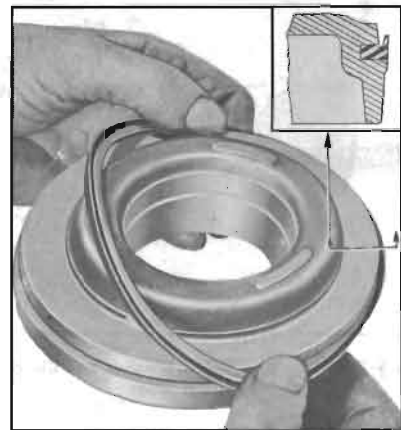

Figure 5-75—Replacement of Clutch Piston Outer Seal
4. Inspect clutch piston outer seal and replace if hardened, broken, or has turned edges. Install new seal with lip extending over the smaller diameter land of piston. See figure 5-75.